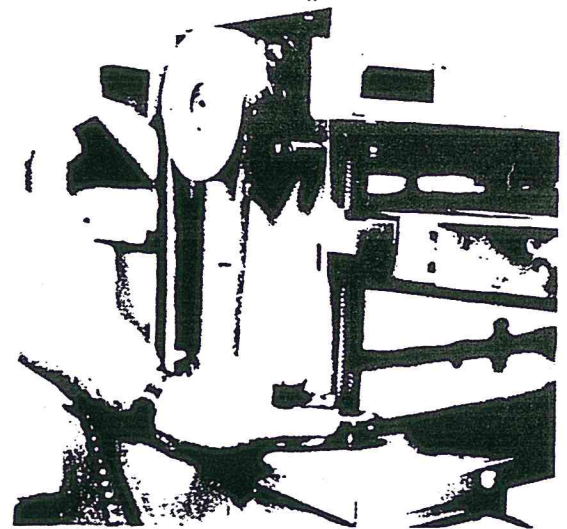

Fig. B-3
6. Remove the chain connector link (master link) and remove the chain from the corner screw sprockets (see fig. B-3).